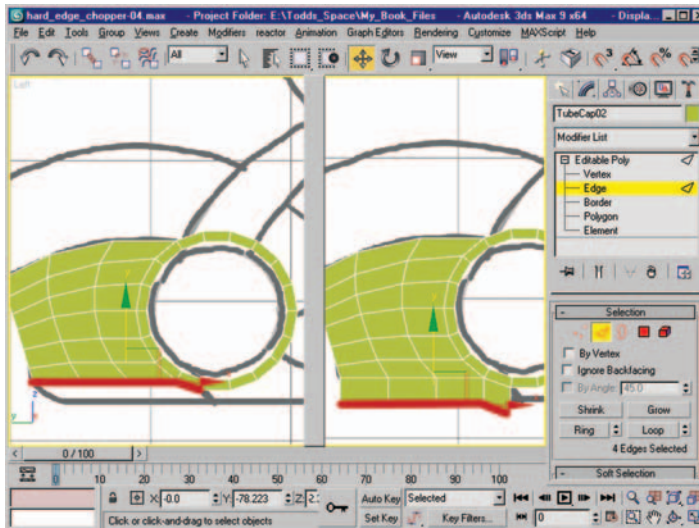

Figure 8.6 Edge selection before and after performing shift-drag.
7. Select the four edges shown in Figure 8.6 (left) and use shift-drag to create a new row of polygons (Figure 8.6, right).